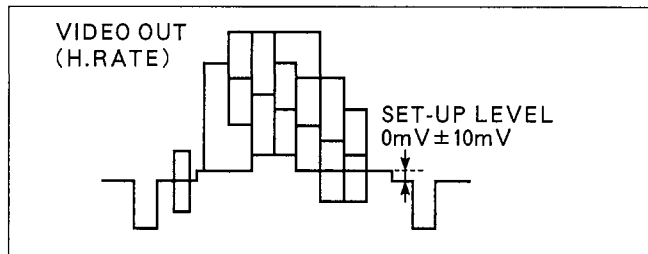

Figure E18
2. Adjust VR8201 so that the set-up level becomes  $0\text{mV} \pm 10\text{mV}$  as shown in Figure E18.